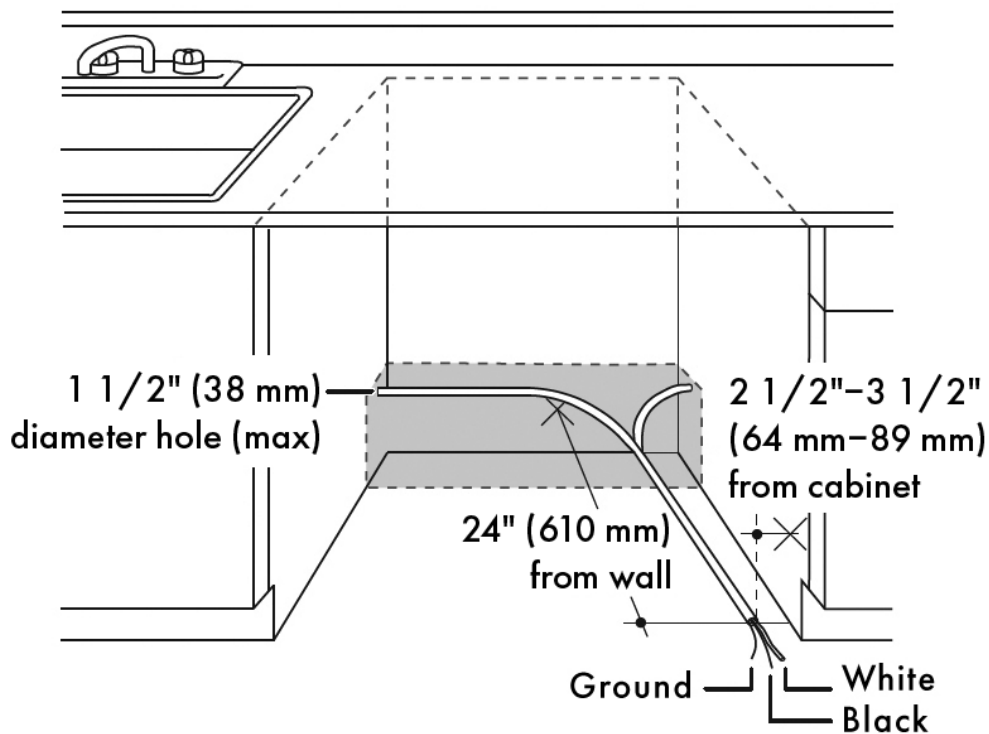

Figure 1
- Refer to Figure 1 on the next page for approved routing zone.
- Wiring must enter within the designated shaded area shown in Figure 1 on the next page.